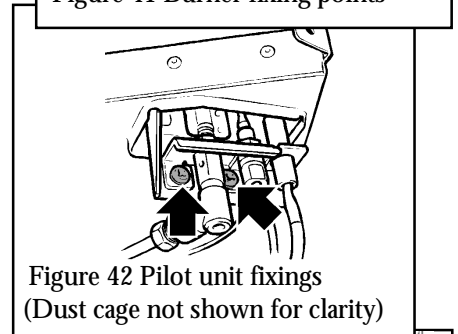

Figure 42 Pilot unit fixings
- Remove the first screw securing the dust cage to the pilot unit & burner (see figure. 42). Carefully remove the dust cage and place aside.